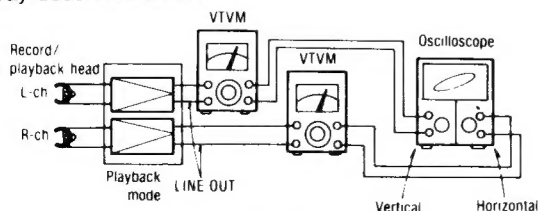

Fig. 8
12. Make connections as shown in fig. 8.